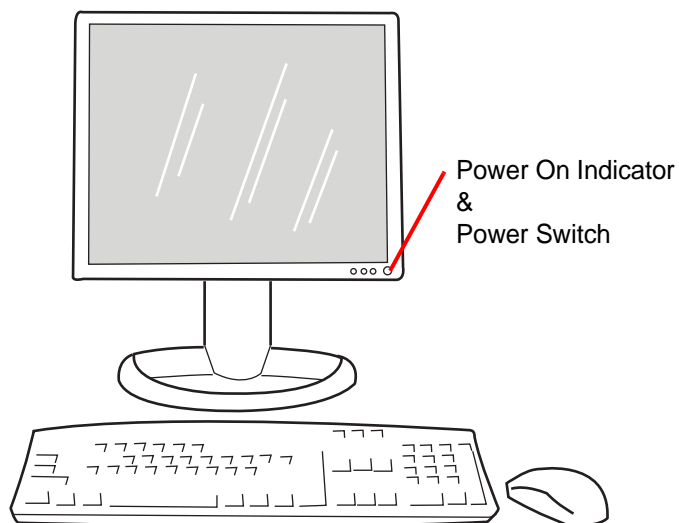

Figure 3-2 Power on the Monitor
2. At the monitor, turn on the power. (Figure 3-2.)